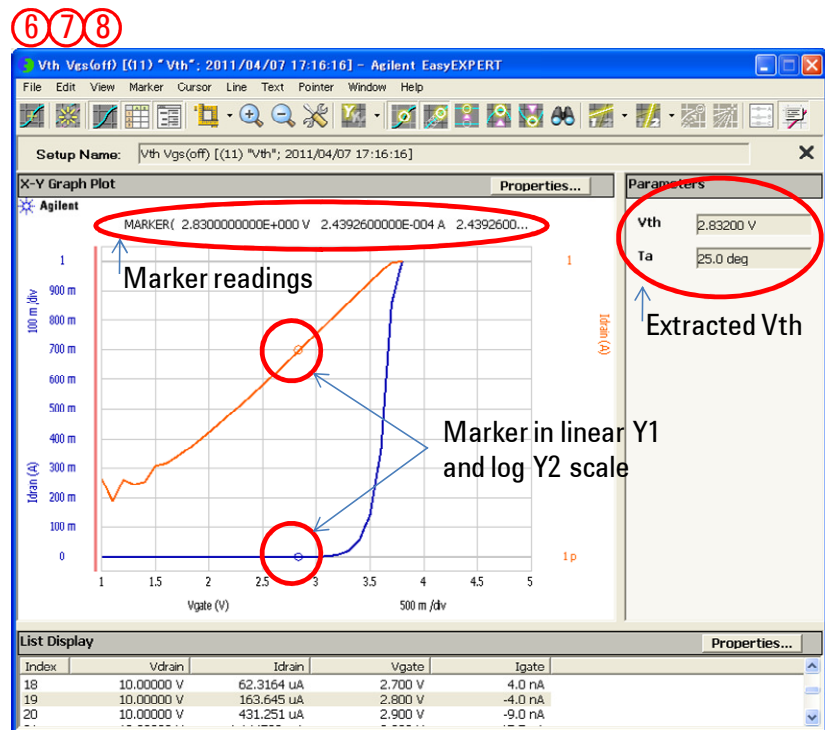

Figure 3-14. Vth test data example
Step 8. You can see the Id-Vgs curve and gfs (Y2 axis) graph as shown in figure 3-14.
Figure 3-14 plots drain current Idrain in Y1 linear axis and Y2 log axis versus gate voltage Vgs in X axis. Marker is automatically located to the specified Id@Vth\_Vgsoff point. The Vth parameter appears in the Parameter Display field as shown in the figure.